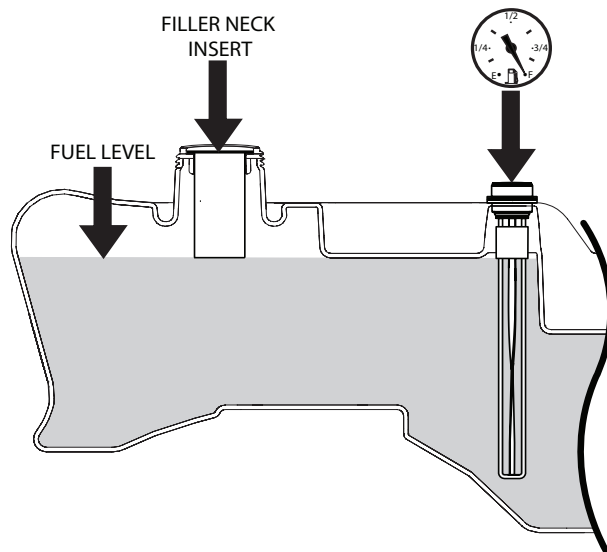

Figure 7-5. C.A.R.B. / EPA Phase 3 Fuel Level
Fill the fuel tank at the beginning of each operating day. For EPA Phase 2 (produced prior to 1/1/2011) models, fill to within one (1) inch below the filler neck. For Low Emission (LE) and EPA Phase 3 (produced after 1/1/2011) models, fill to the bottom of the filler neck insert (approximately 4 gallons RH Fuel Tank and 3 Gallons LH Fuel Tank indicating Full (F) on the fuel gauge) at the beginning of each operating day. See Figure 7-5. Do not overfill. Use clean, fresh unleaded gasoline with a minimum octane rating of 87 and a maximum of 10% Ethanol.